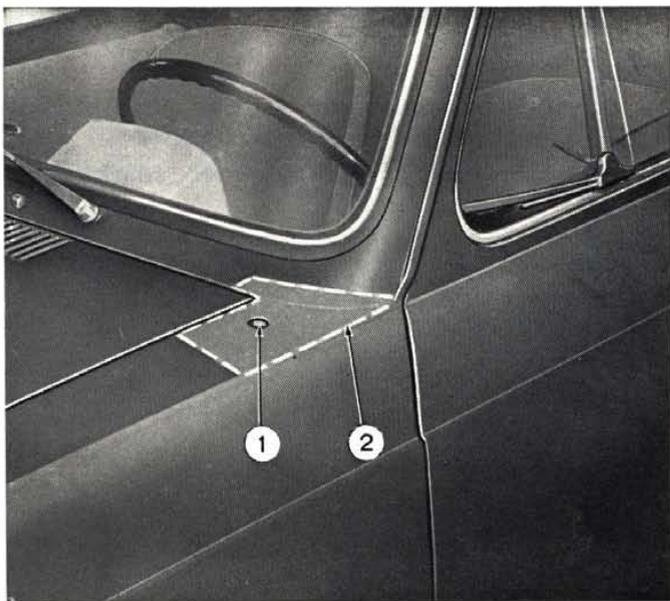

Fig. 379 - Fitting the templet for drilling the antenna rod passage opening.
- fit the drilling templet (2, fig. 379) on the left side front fender;
- drill a .669" (17 mm) opening (1, fig. 379) at the point shown by the templet;